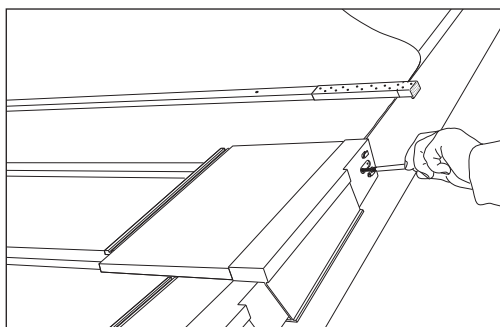

Fig 2 Commence installation of dry verge units in normal manner
- 7 Commence installation of dry verge units in normal manner, by aligning an appropriate hole in verge unit with a suitable hole in the end flange of batten extension unit (Fig 2). (See Universal and Edgemere dry verge fixing, pages 114-121).